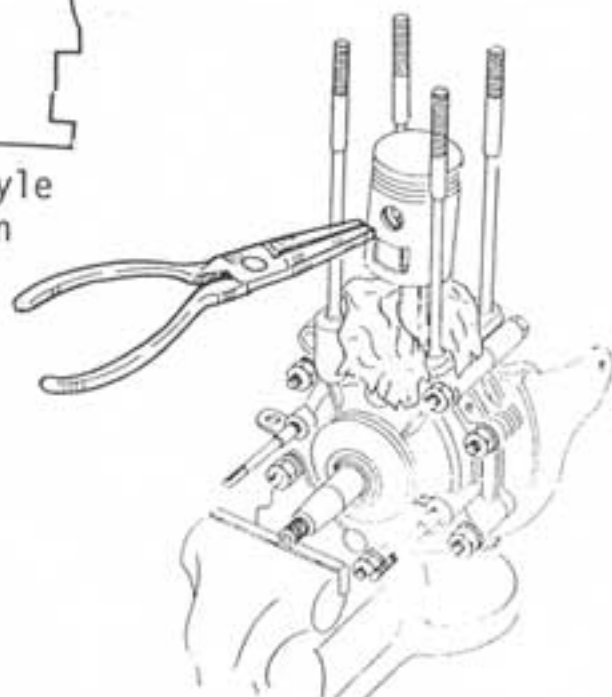

Fig. 2
- Stuff a rag into the crankcase mouth and remove the wrist pin clips using flat nose pliers (fig. 2).